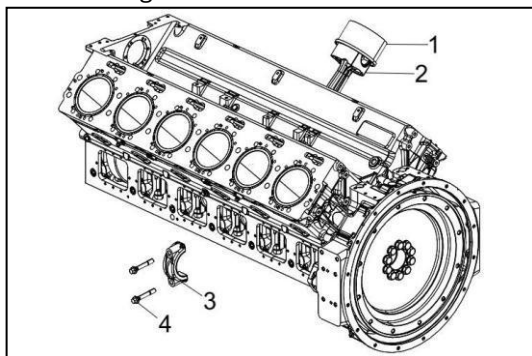

Figure 140
3. Using a piston ring compressor (Figure 140, 1), compress the piston rings.
5. Lower the mobile coupling (Figure 140, 2) until the connecting rod big end and its half-bearing are in place on the crank pin.
6. Reinstall the connecting rod cap (Figure 140, 3). Fit the connecting rod bolts (Figure 140, 4) and fully engage the cap (turn the crankshaft to facilitate fitting of bolts).
7. Tighten the connecting rod bolts (Figure 140, 4) in two steps: